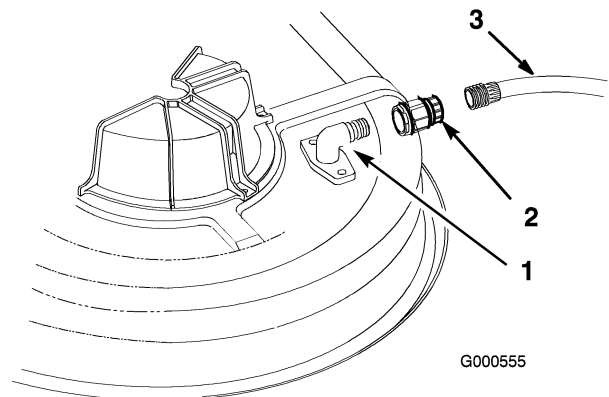

Figure 53
3. Attach the hose coupling to the end of the mower washout fitting, and turn the water on high (Figure 53).